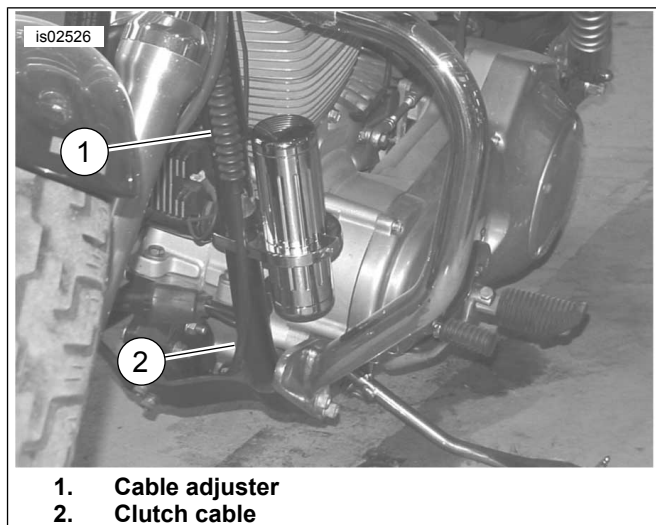

Figure 4. Mounting Location (Left Side of FXDX Shown)
FXDX, FXDXT and FXDS Dyna Models: See Figure 4. The preferred mounting location is on the right side front frame downtube as more open space is available however, the storage tube can be mounted to the left side as shown. Care must be taken to avoid interference with clutch cable (2) and cable adjuster (1).